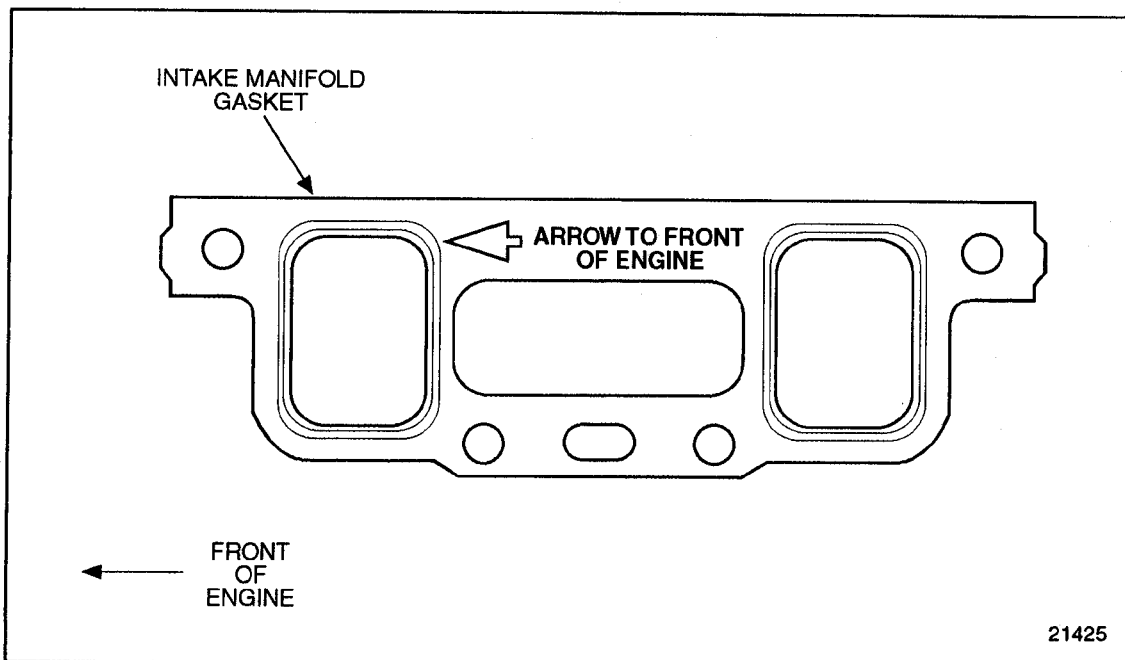

Figure 6-12 Intake Manifold Gasket Orientation
1. Install three new manifold gaskets to the mating surfaces of the intake manifold with the arrow on the gasket pointing to the front of the engine. See Figure 6-12.